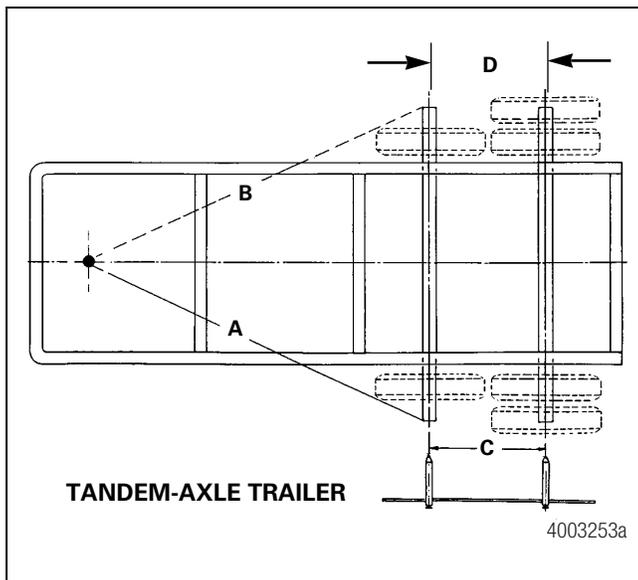

Figure 8.9
2. Measure "C" and "D", the distances between the front and rear axles on the trailer roadside and curbside. The difference between these dimensions must not exceed  $\pm 0.03125$ -inch ( $\pm 0.79$  mm). Adjust the rear axle, if necessary, to bring this difference within specification. Figure 8.9.